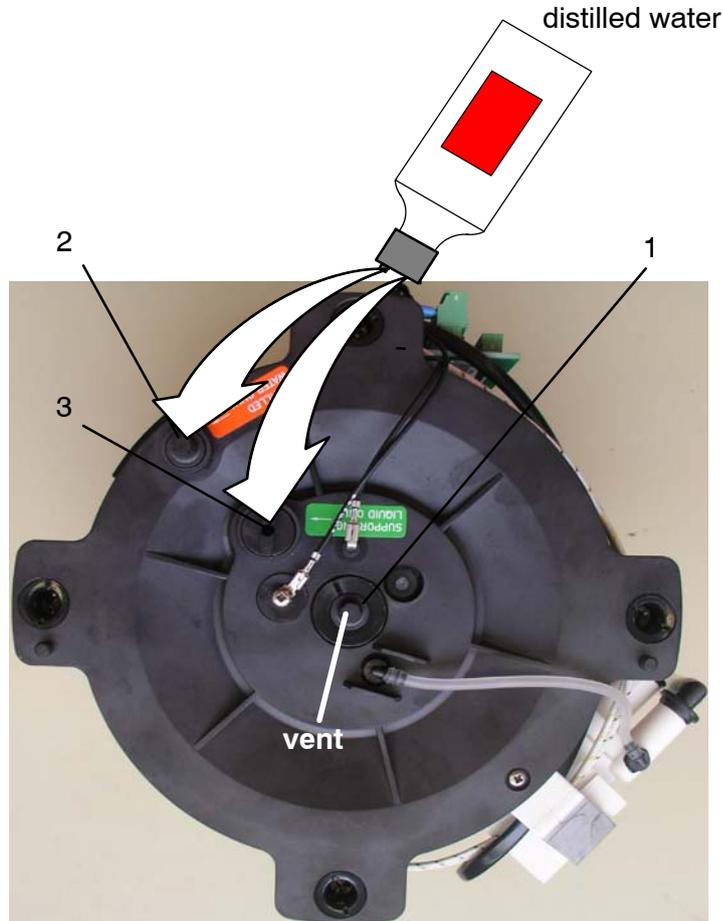

Figure 79: Immediate measure to fill up with distilled water
- Open the ventilation outlet (Figure79/1), the supporting liquid screw (Figure79/3) and the distilled water screw (Figure79/2).